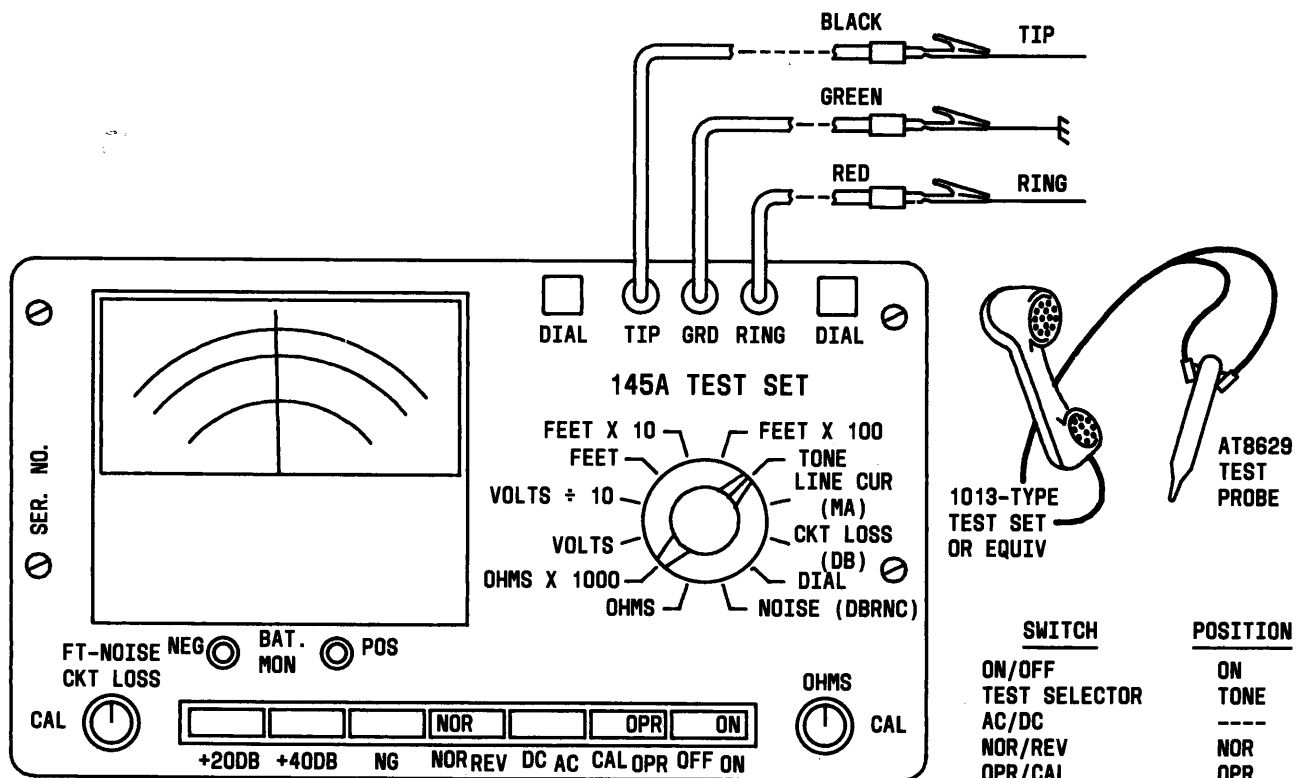

Fig. 7—Use of Tone for Pair Identification
3.11 Use of Tone for Pair Identification (Fig. 7): The 145A test set produces a distinctive 2-frequency warbling tone of approximately 550 and 1000 Hz.